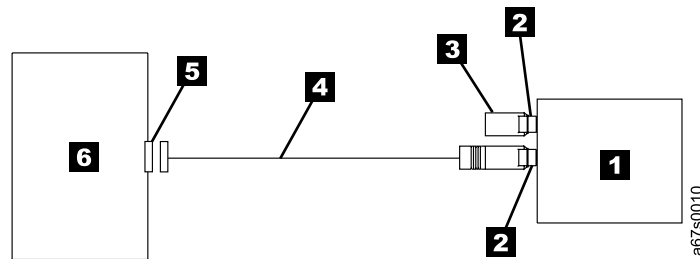

Figure 4. Example of connecting one SCSI device to the server. The view is from the top.
- **If the 3581 Tape Autoloader Is the Only Device on the SCSI Bus:** connect the SCSI bus cable to the server (see Figure 4).
**Note:** The autoloader actually consists of two devices: the autoloader controller and the tape drive. For illustration purposes, Figure 4 represents the autoloader as one device.